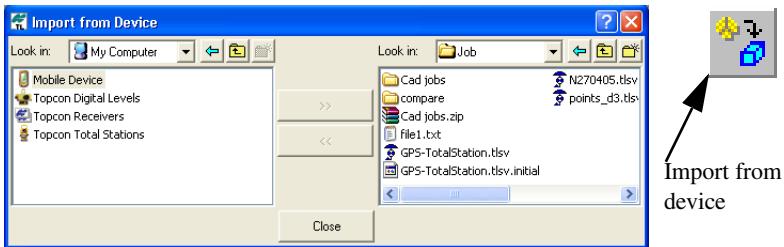

Figure 2-16. Import From Device
4. Double-click the *Mobile Device* in the *Import from Device* window (Figure 2-16).